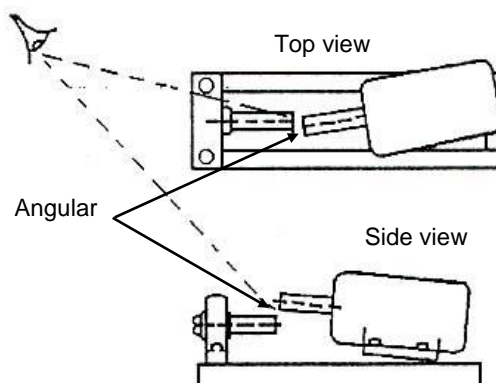

FIG 24.
- B. Angular misalignment (viewed from the side). (Fig 24)